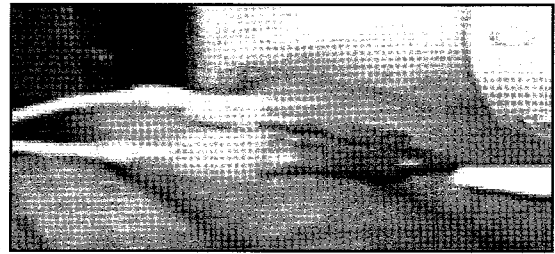

Figure 2
5. The wire leads to the igniter are connected to the wire harness with 1/4 inch male/female spade connectors. Disconnect the connectors and remove the igniter from the ash pan opening in the front of the appliance. **Figure 2.**
10. Re-connect the wires to the 2 leads with the spade connectors. Refer to **Figure 2** on page 3.